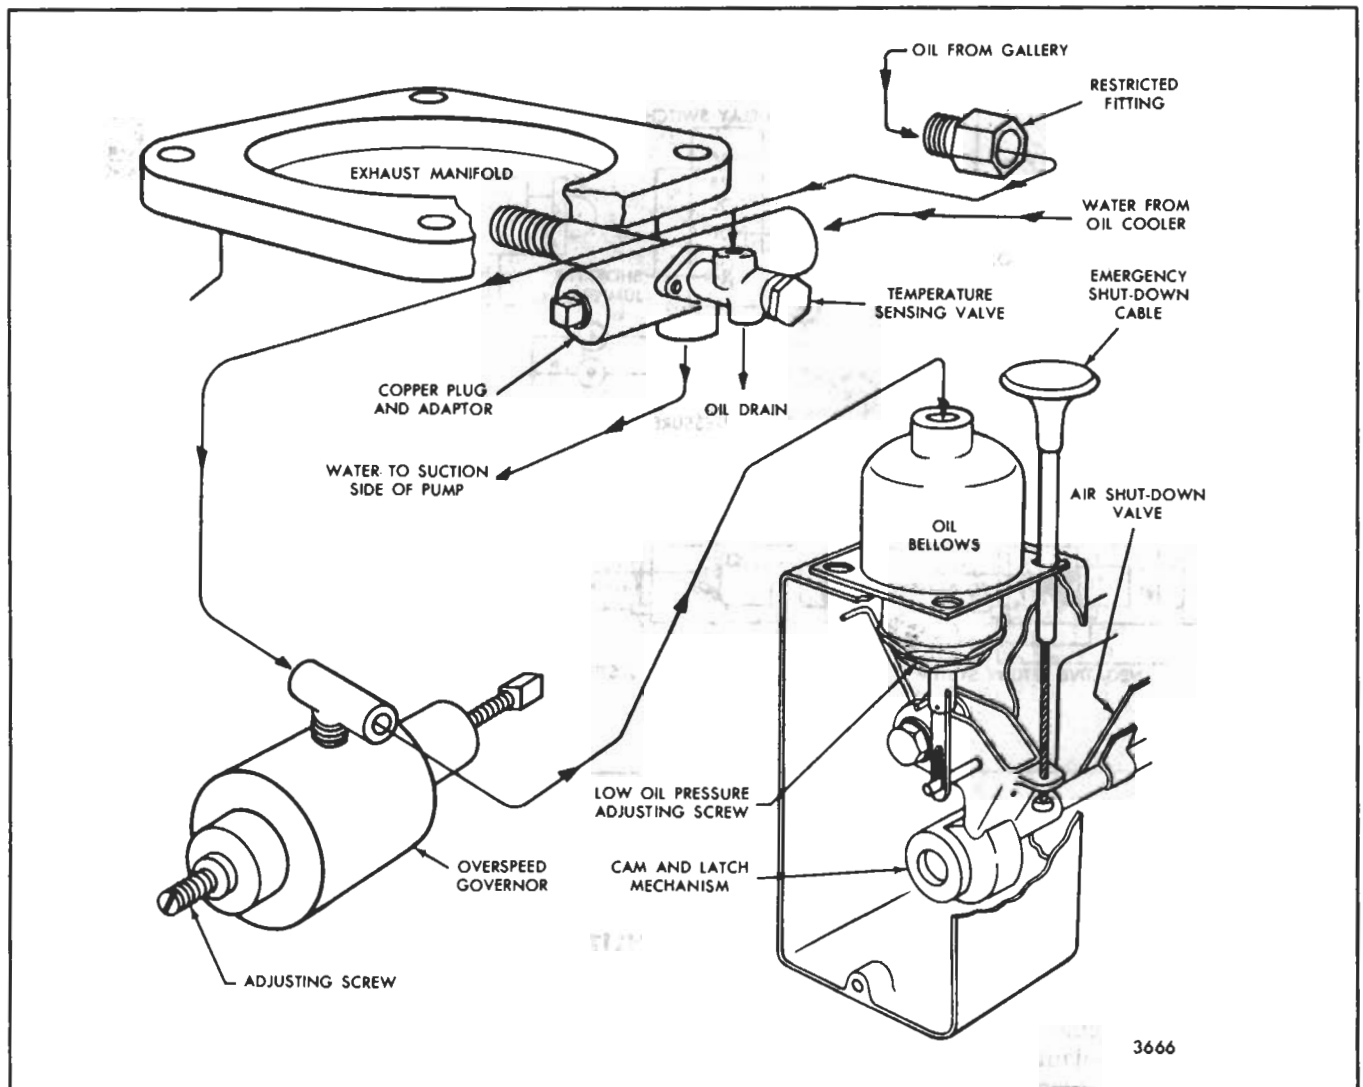

Fig. 3 - Schematic Drawing of Automatic Mechanical Shut-Down System with Overspeed Governor
The overspeed governor (Fig. 3), used on certain applications, consists of a valve actuated by a set of spring-loaded weights. Engine oil is supplied to the valve through a connection in the oil line between the bellows and the temperature-sensing valve. An outlet in the governor valve is connected to the engine oil sump. Whenever the engine speed exceeds the overspeed governor setting, the valve (actuated by the governor weights) is moved from its seat and permits the oil to flow to the engine sump. This decreases the oil pressure to the bellows, thus actuating the shut-down mechanism and stopping the engine.
**NOTE:** If the temperature sensing valve is removed, examine the temperature shut down valve plunger in the copper probe (Fig. 3). If it is not free in the probe and adaptor, install a new plunger, spring and adaptor. Deposits from the engine coolant building up between the plunger, spring and plug can cause the plunger to stick in the probe.